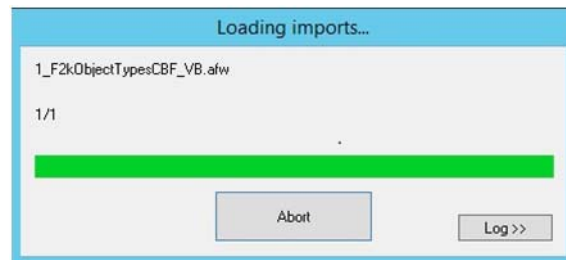

Figure 14. Loading imports - Abort
- In the **Loading imports** screen as shown in Figure 14, click **Abort** to cancel the system extension loading.